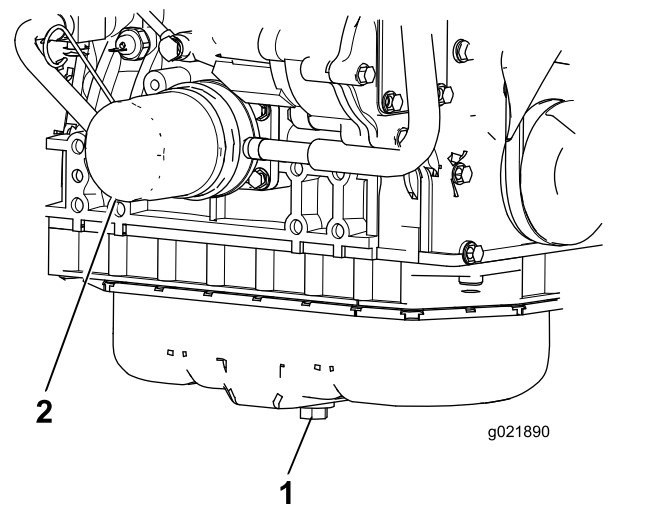

Figure 69
2. Remove the oil filter (Figure 69). Apply a light coat of clean oil to the new filter seal before screwing it on. **Do not overtighten.**
1. Remove the oil-drain plug (Figure 69) and let the oil flow into a drain pan. When all the oil is drained, install the drain plug.